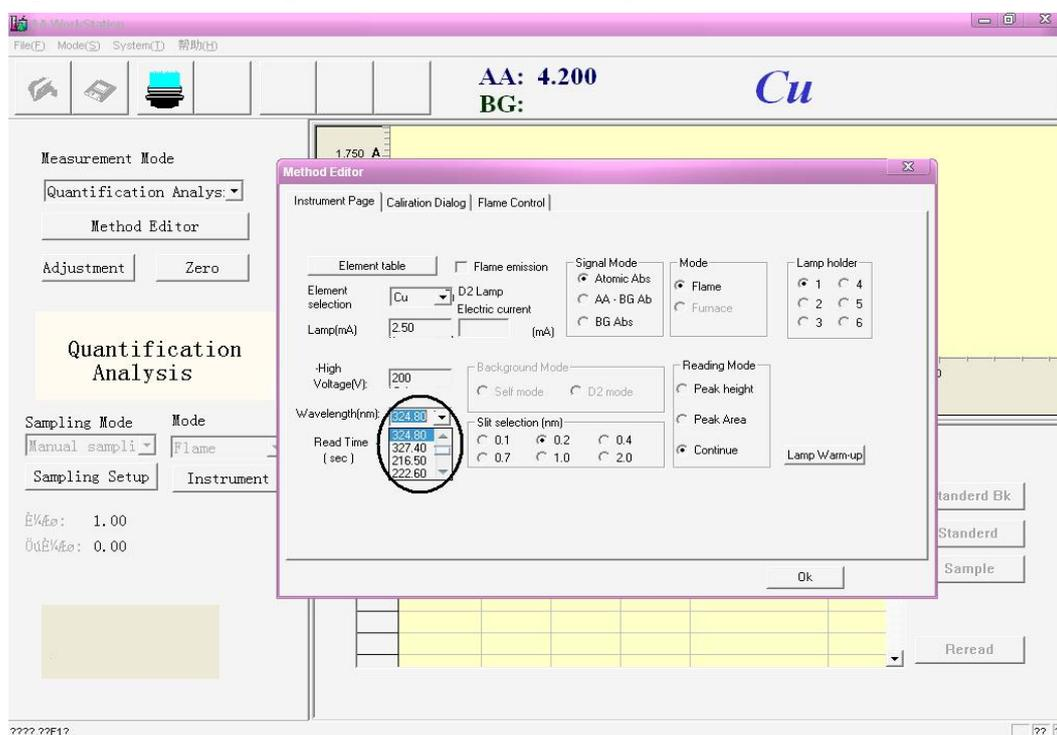

Figure 4-15
5. Wavelength choosing. The default wavelength is main sensitive line of selected element, if u want to select another sensitive line move the cursor to "wavelength" drop-down box, check one and click on a wavelength value, the wavelength is selected, as shown in Figure 4-15.